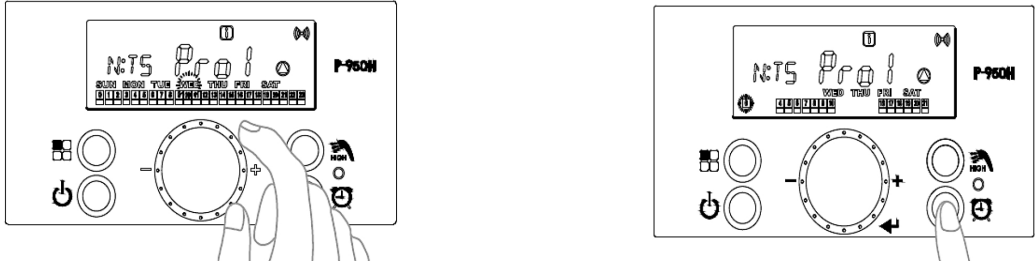

Figure 56 - A - Selecting the Day, Turning the Dial to Other Days, B - Setting the Time
e. The default day is displayed when the program function is selected. Press the button to remove a day. Turn the dial to select other days. See Figure 56 A.
f. Press the button to set the time. See Figure 56 B.